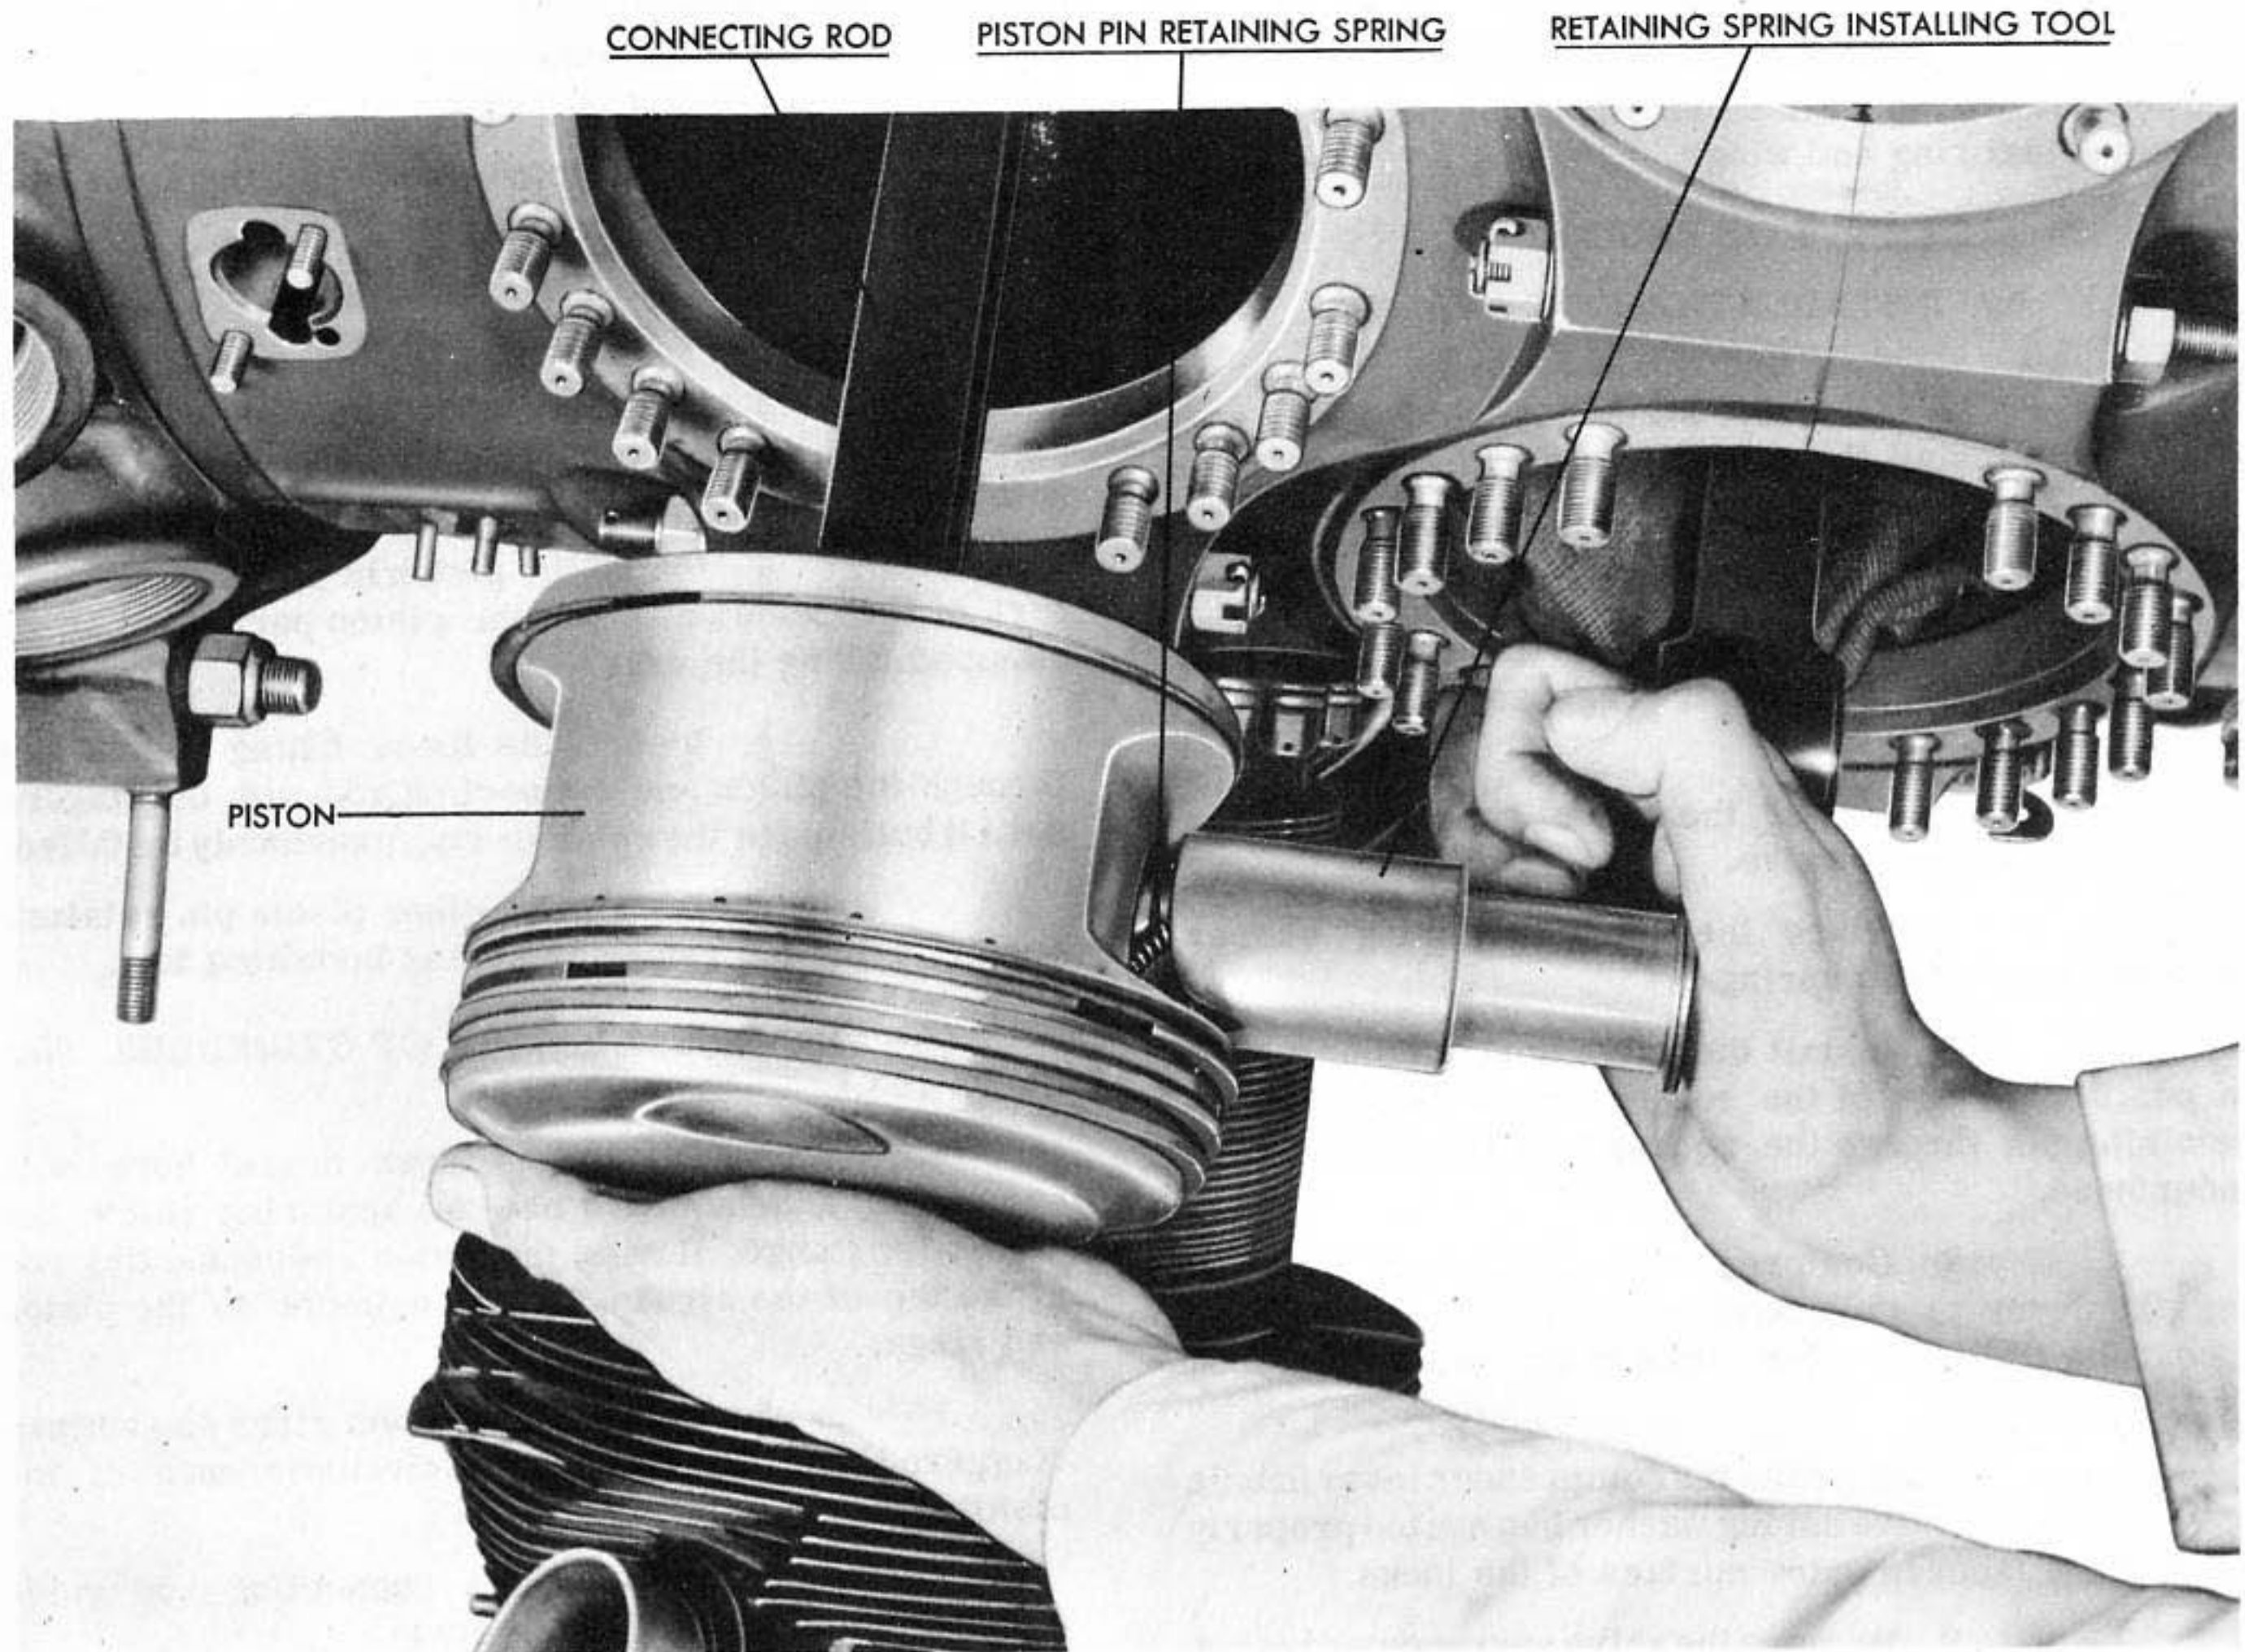

Figure 102 - INSTALLING PISTON PIN LOCK
11. REMOVAL OF PISTON. (See figure 102.)